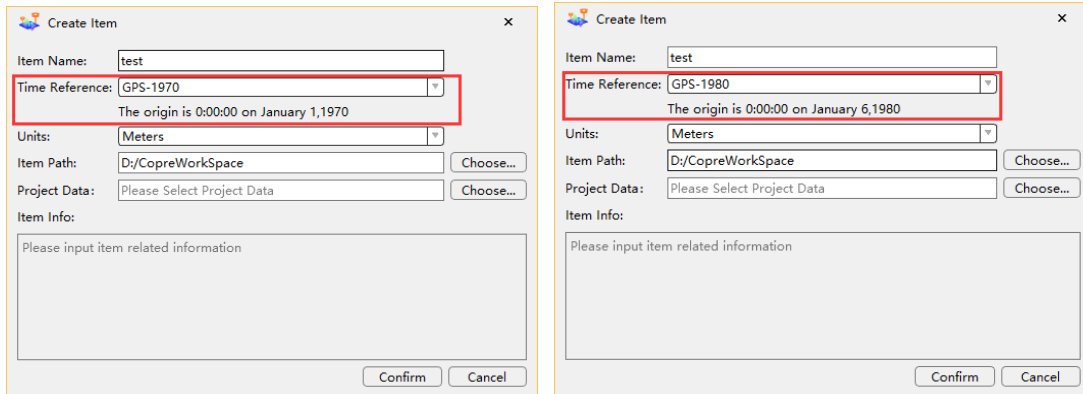

Figure 6
- Select Time Reference as shown in figure 6